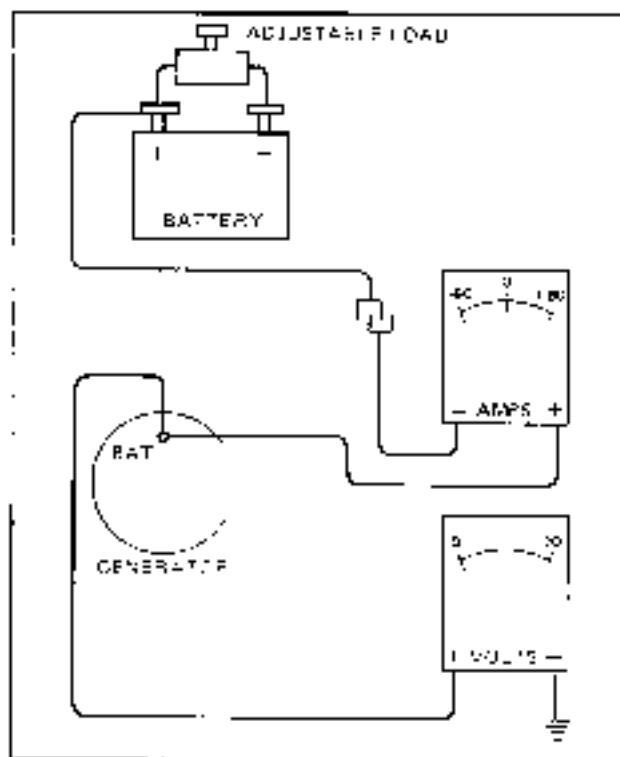

Figure 6D-4
4. Connect battery lead to a loading device across the battery terminals, e.g. an adjustable carbon pile. Refer Fig. 6D-4.
5. Connect the positive lead of a voltmeter to the 'BAT' terminal on the generator and the negative lead to a good ground on the generator body. Refer Fig. 6D-4.